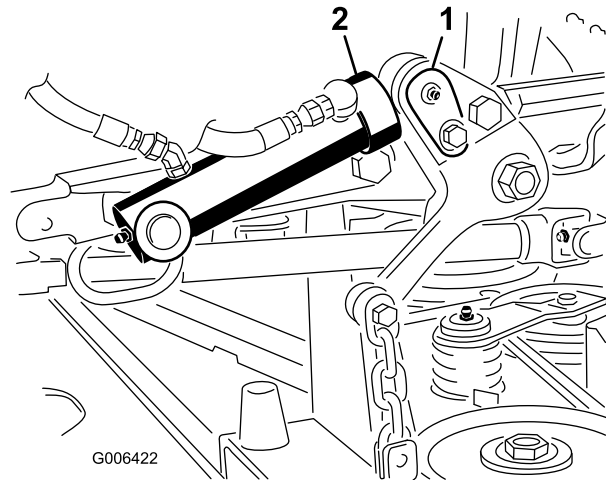

Figure 2
6. On the right side of the machine, remove the screw and pivot pin securing the hydraulic cylinder to the lift arm (Figure 2). Pivot the cylinder out of the lift arm.